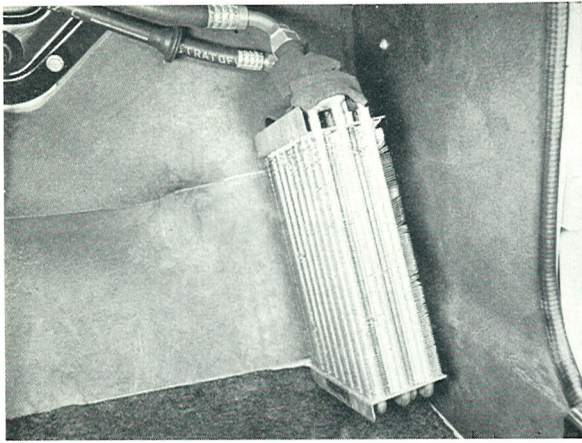

Fig. 8-81. Placing evaporator on floor
- (21) Remove the evaporator from the central unit without disconnecting any of the refrigerant hoses, and place it at the right-hand side of the cowl (Fig. 8-81).